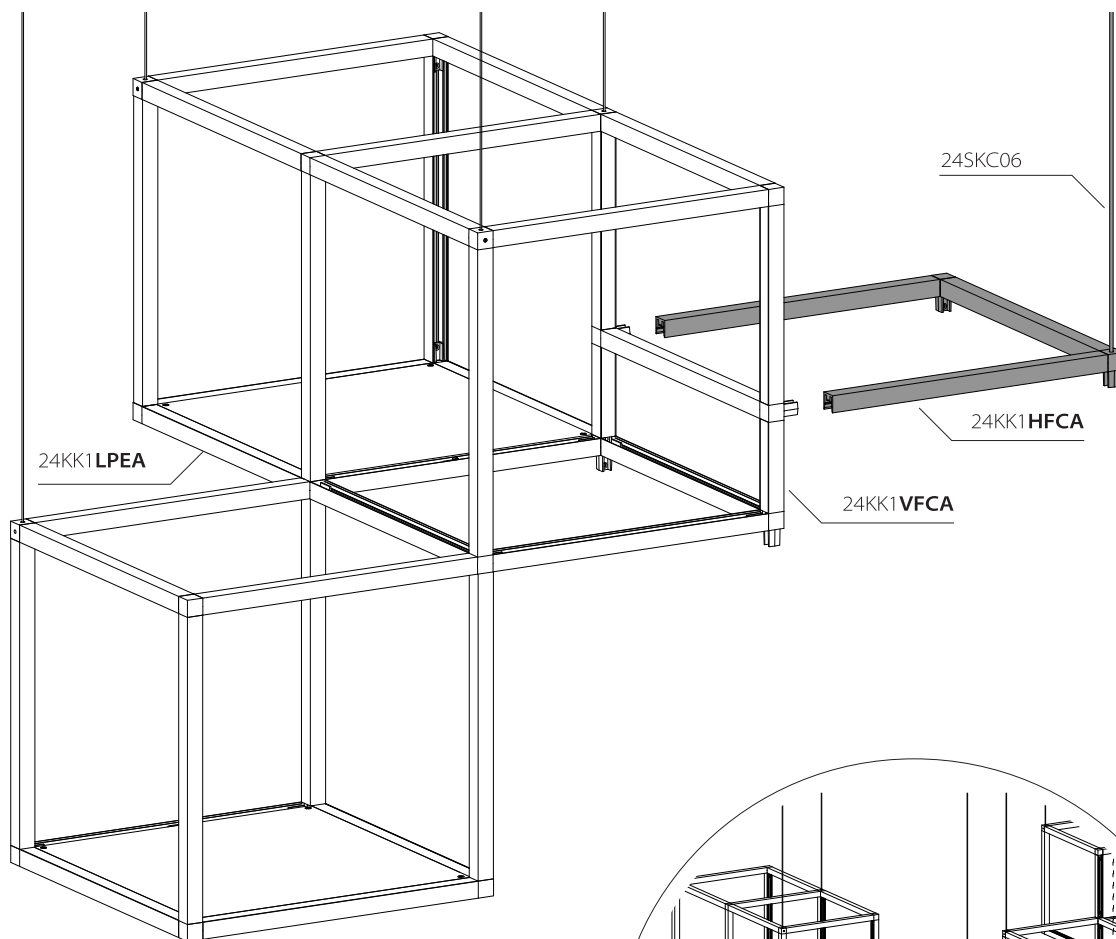

Fig. 9a
- 7a. Install 24KK1HFCA to 24KK1VFCA in orientation shown in Fig. 9a. Install 24SKC06 to hanging corner and tighten set screw with included Slotted Screwdriver.